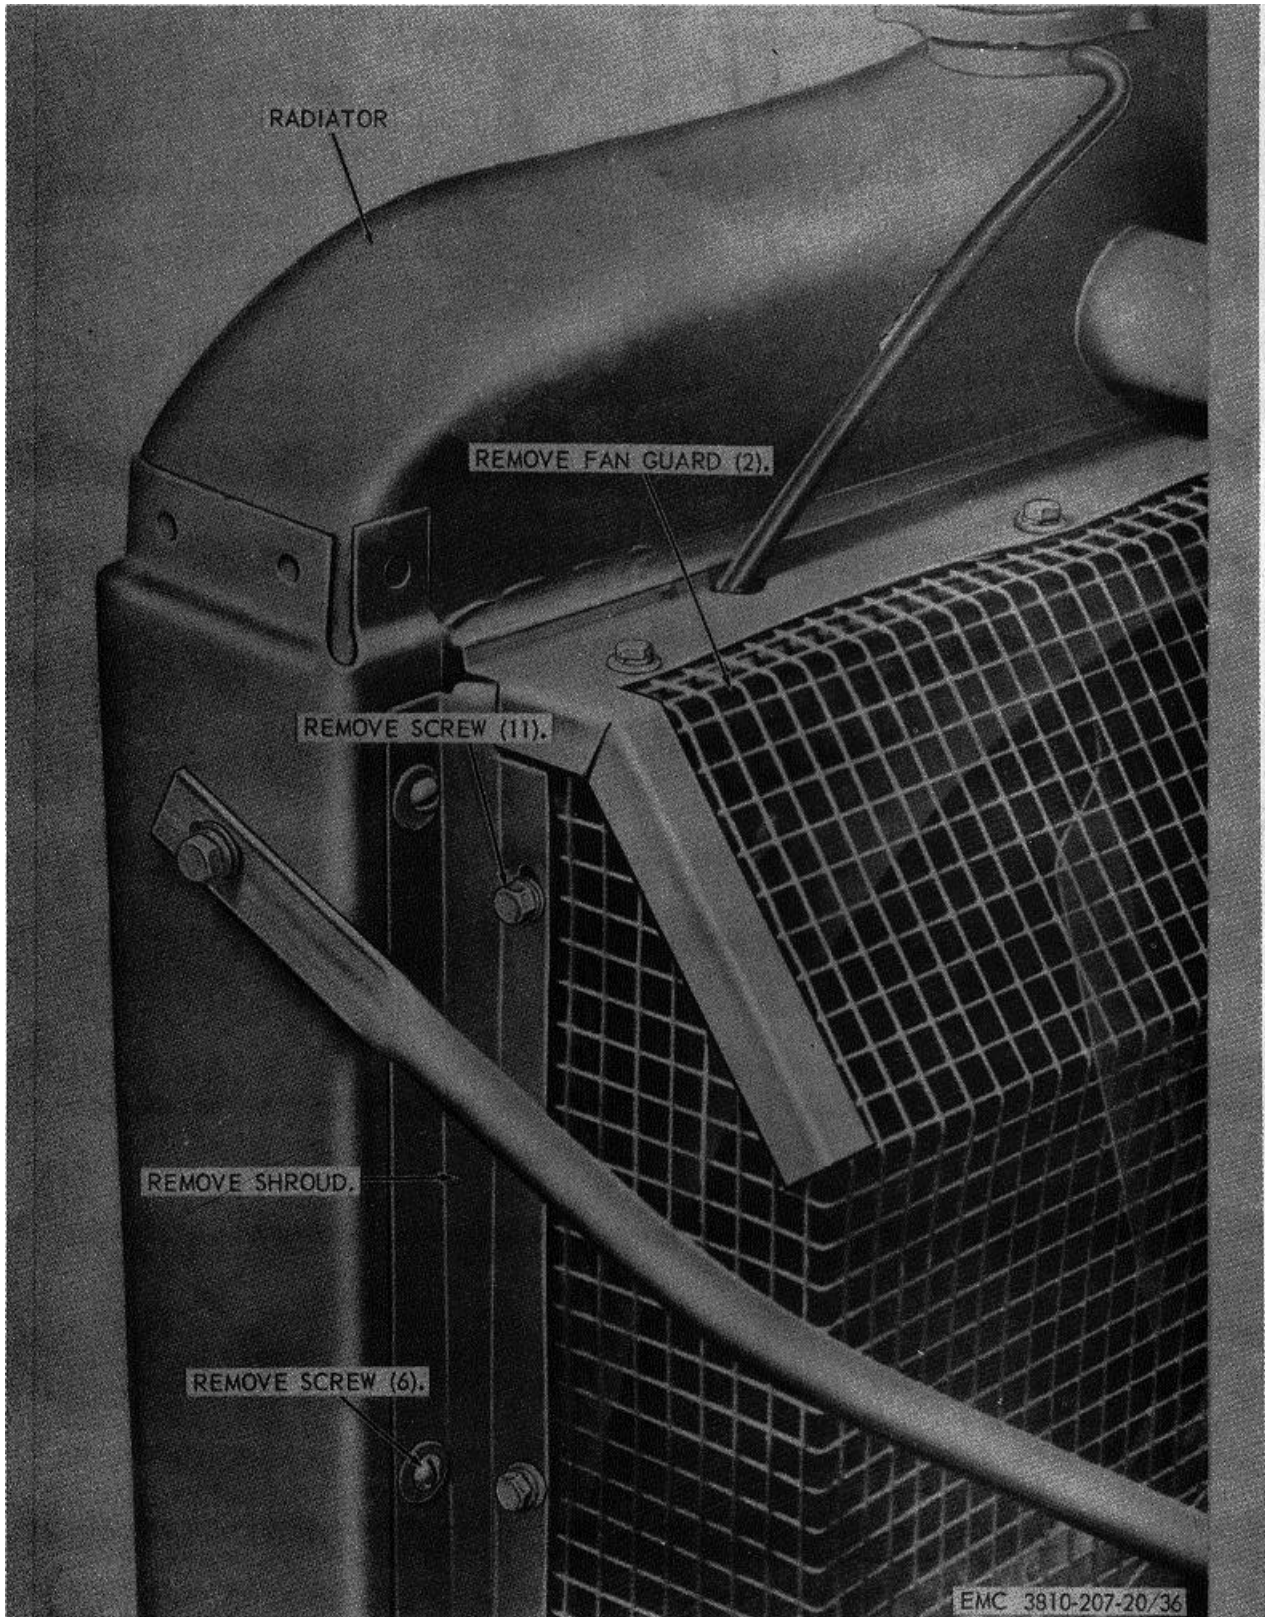

Figure 36. Radiator shroud and fan guard, removal and installation.
a. *Removal.* Remove radiator shroud and fan guard as instructed on figure 36.
- (1) Clean the radiator shroud and fan guard with an approved cleaning solvent.
- (2) Inspect the shroud for breaks, bends, and other damage. Replace defective shroud.
c. *Installation.* Install the radiator shroud and fan guard as illustrated on figure 36.